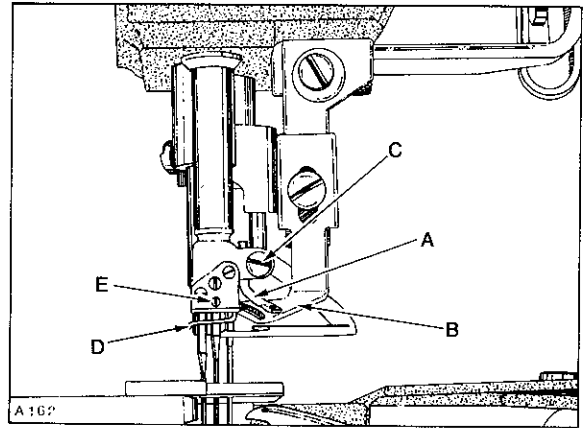

Fig. 32
With needle bar at BOTTOM of stroke, spreader thread eyelet (A, Fig. 32) should clear stationary spreader thread guide (B) by approximately $\frac{1}{32}$ inch (0.8mm) and aligned as close as possible with the center of the SLOT in same. If adjustment is required, care must be taken NOT to disturb alignment of needle bar. Loosening screw (C) which allows a 4-way directional movement of eyelet (A). Retighten screw (C).